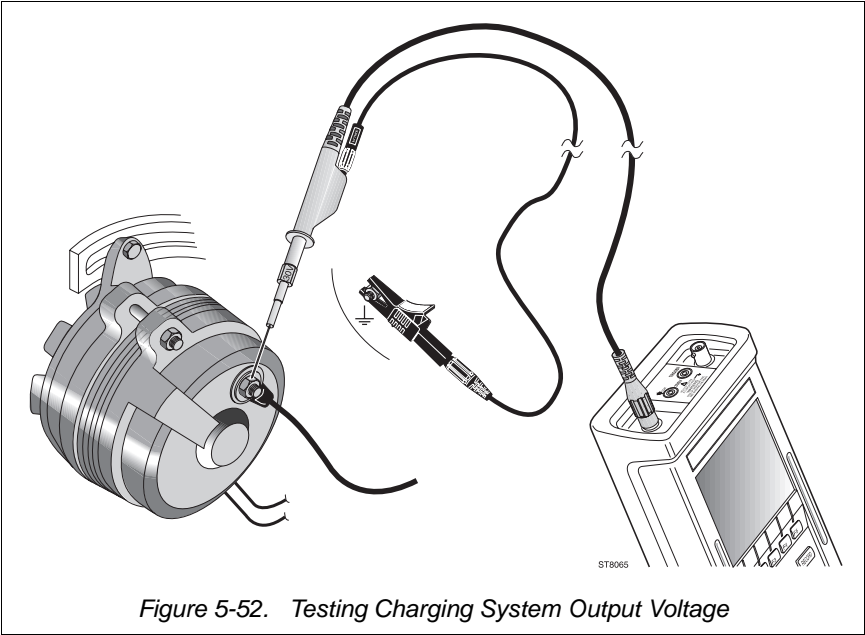

Figure 5-52. Testing Charging System Output Voltage
- ④ Connect the test leads as displayed by the test tool's Connection Help and shown in Figure 5-52.
- ⑤  Starts the charging (dc) voltage test.